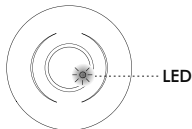

FIG.21
- The red LED of KDP1 360FP BK is behind the lens (See FIG.21) for test mode indication. In walk test, LED will turn on for 2sec once the detector is triggered. If detector is continuously triggered, the red LED will require an interval time of 2sec to turn on again. With the above said LED function, the load is not necessary to be connected while conducting walk test.